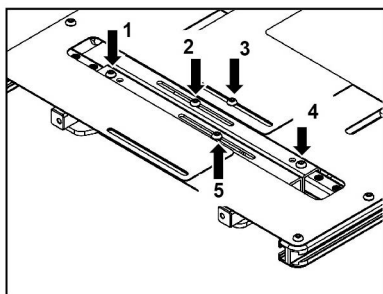
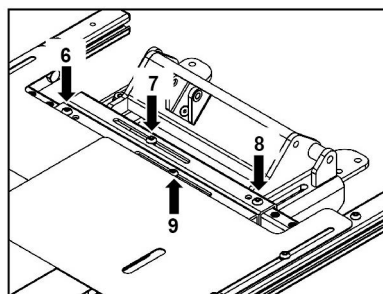

Fig D1-1
Fig D1-2
(1) Use a hexagonal wrench to remove 9 screws. The seat width is 14"~22", and the width of the seat can be adjusted every 2". After adjusting as required, tighten the 9 screws.(Fig D1-1, Fig D1-2)